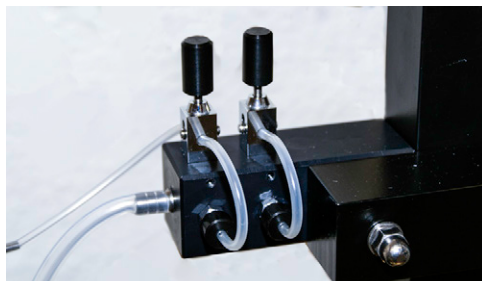

Fig. 17–Mount the carbogen manifold.
10. Mount the carbogen manifold assembly (Fig. 17) to the left end of the central crossbar. The regulators and the tubing are already mounted to the manifold. The manifold is mounted using a single cap screw.